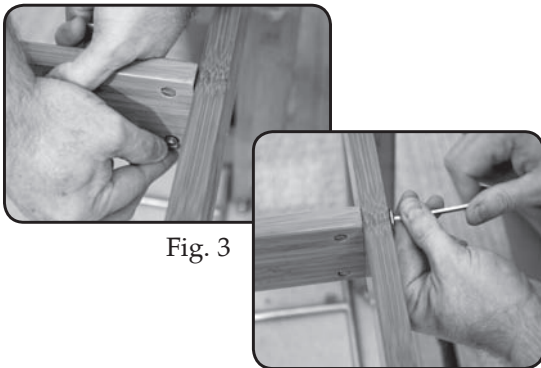

Fig. 3
4. Install the barrel nut into the stretcher beam being sure the screw slit is horizontal. Install the Short Bolts on either end of the stretcher beam and tighten the bolts on both ends. Make sure the stretcher beam is flush with the adjoining rails while tightening bolts. (Fig. 3)